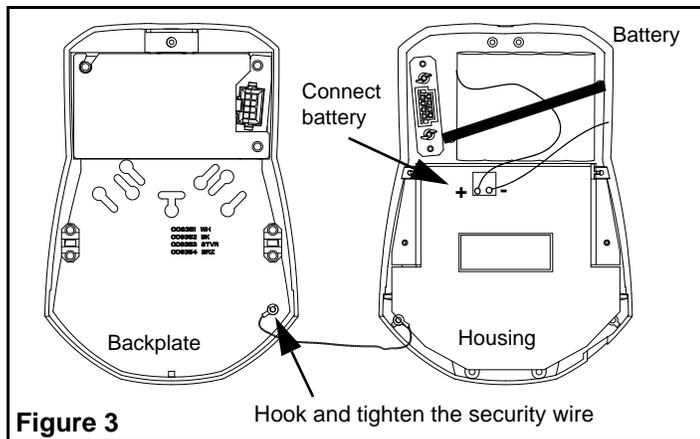

Figure 3
7. Remove the unit housing from the package. Units with DC-remote power: go to step 8 (see figure 3).
- a. Units with battery back-up: plug the battery connector in the slot. The connector is polarized, do not force-fit. Correct installation has the positive red wire at the left (see figure 3).
8. Hook the security wire to the backplate and tighten the screw (see figure 3).